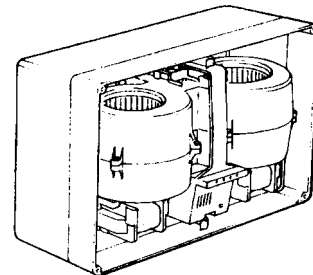

Fig. 8 Fan module in position.
- g) Fit the fan module to the case, mating it's plug fully with the internal socket. Lock with the spring clips. Fig. 8.